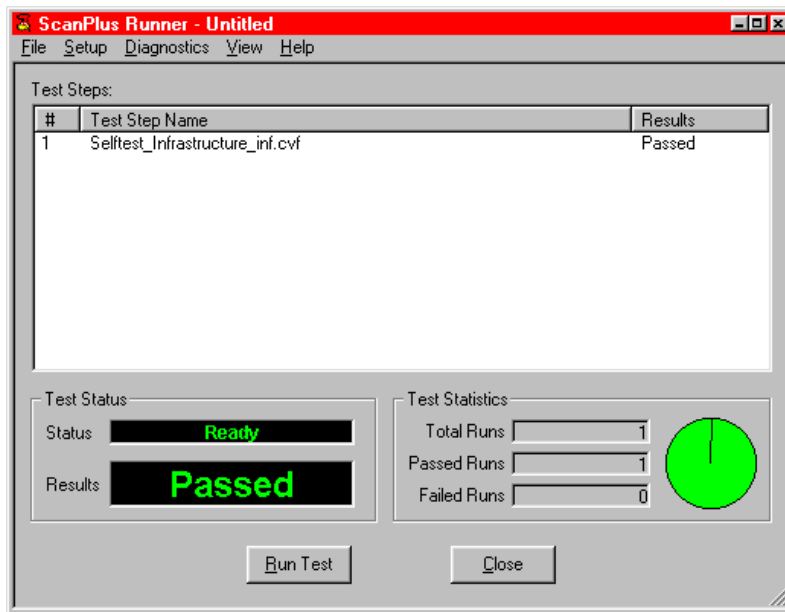

Figure 3-1. ScanPlus Runner Infrastructure Test
- STEP10. Select *Run Test*. The test should run and pass. Figure 3-1 shows a passing infrastructure test.